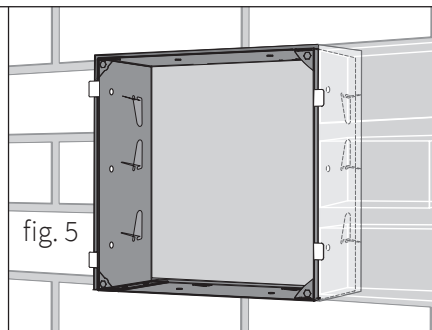

fig. 5
2. Place the metal cage into the newly-cut hole in the brickwork (minimum height, from the ground of 0.5m and to a maximum height of 1.5m). Fold out at least 8 of the triangular metal fixing tabs (2 per side) to secure the metal cage behind the bricks (see fig 5).